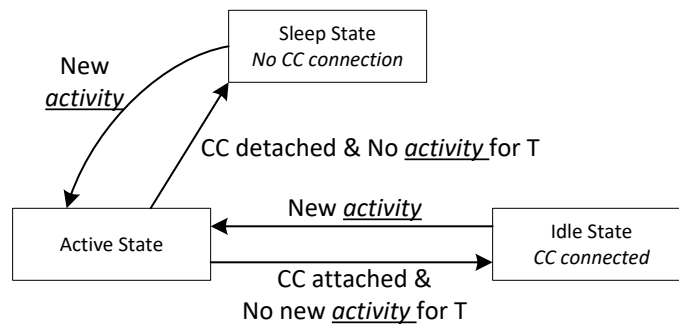

Figure 9-32. Flow Diagram for Power States
(1) See I²C Address Setting to see the exact meaning of I²C Address Index.
(2) See Pin Strapping to Configure Default Behavior for how to configure a given ADCINx decoded value.
The TPS25750 can operate in one of three different power states: Active, Idle, or Sleep. The Modern Standby mode is a special case of the Idle mode. The functionality available in each state is summarized in Table 9-6. The device will automatically transition between the three power states based on the circuits that are active and required. See Figure 9-32. In the Sleep state, the TPS25750 will detect a Type-C connection. Transitioning between the Active mode to Idle mode requires a period of time (T) without any of the following activity: